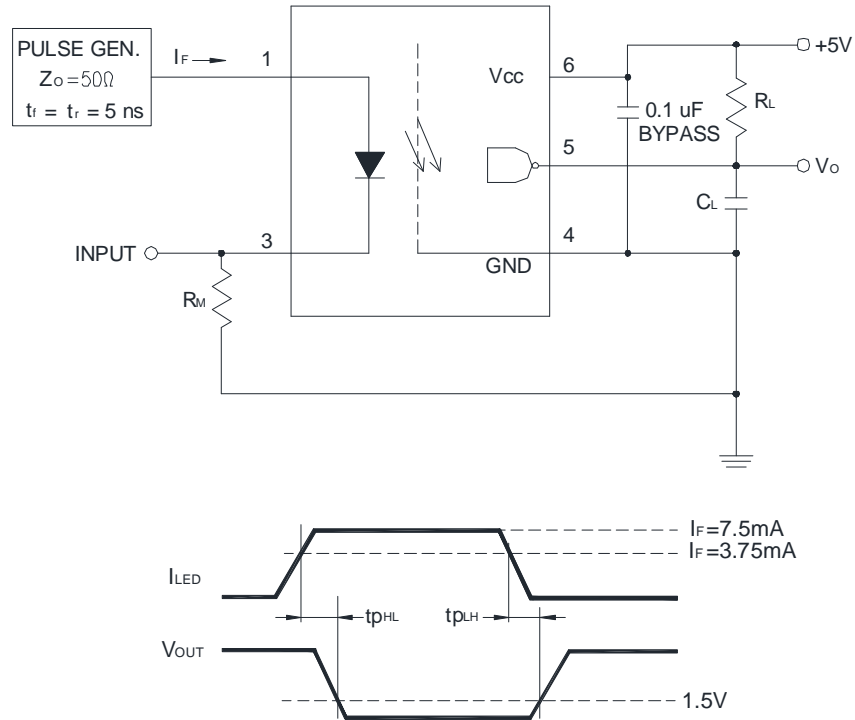

Figure 1: Single Channel Test Circuit for t_{pHL} and t_{pLH}
1. A 0.1μF or bigger bypass capacitor for V_{CC} is needed as shown in Fig.1